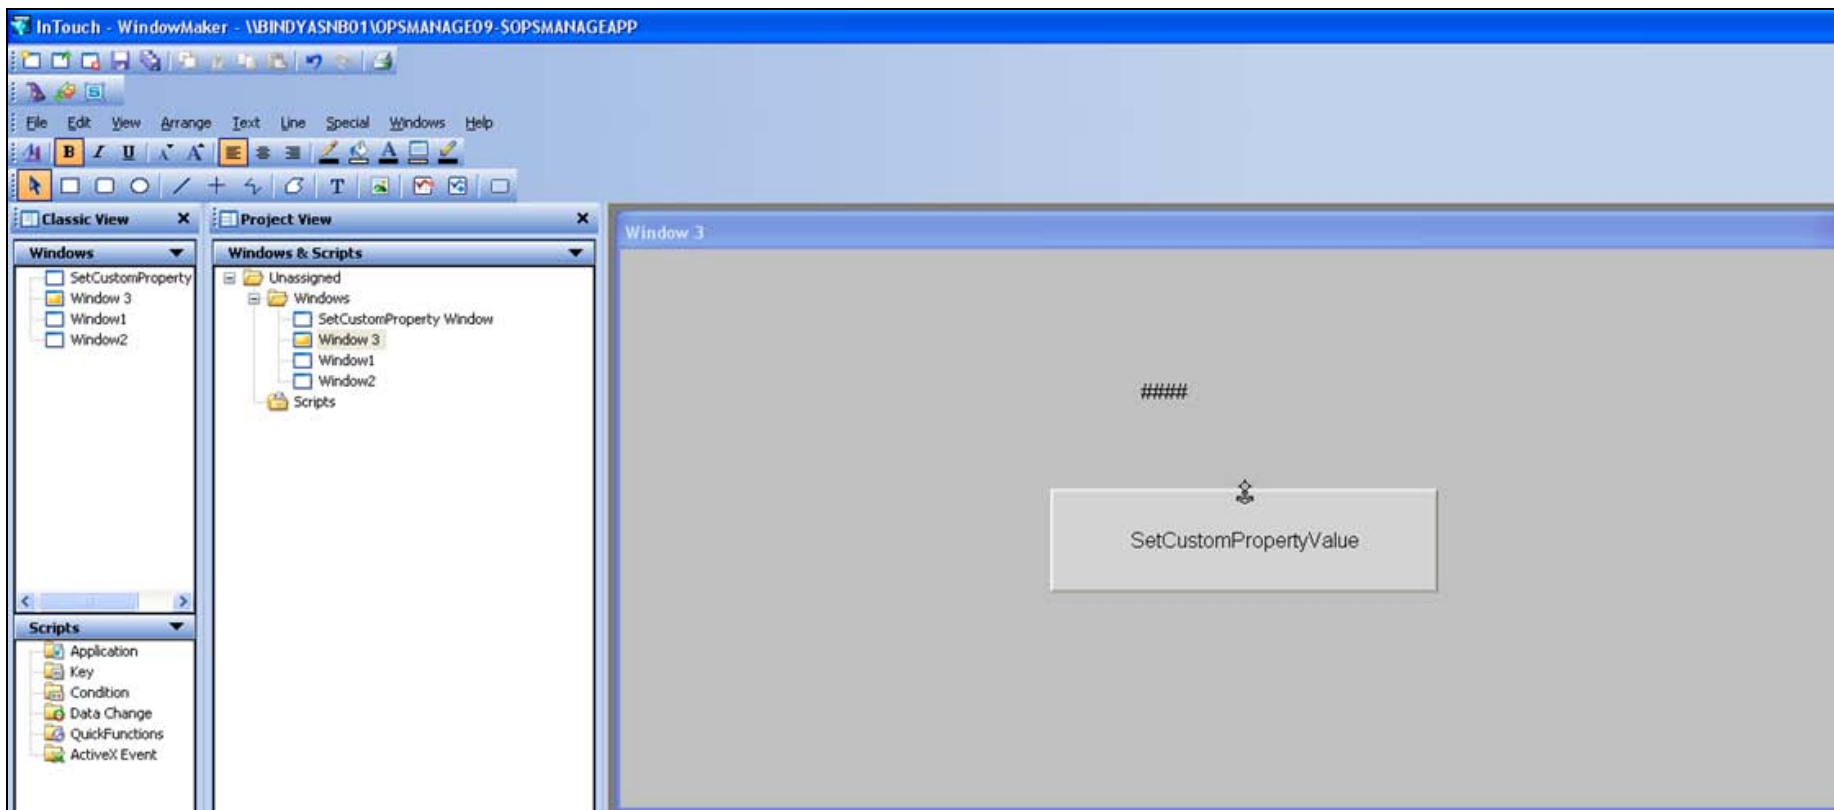

FIGURE 1: EMBEDDED SETCUSTOMPROPERTYVALUE SYMBOL IN INTOUCH
8. Embed the above symbol on an InTouch Window (Figure 1 below).